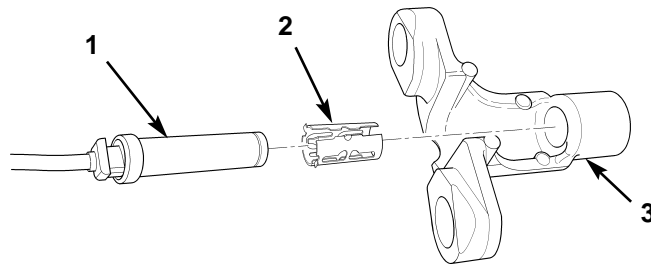

Figure 5. Wheel Sensor, Clamp Sleeve, and Mounting Bracket.
5. While holding end of wheel sensor (figure 5, item 1), pull and remove wheel sensor (figure 5, item 1) from clamp sleeve (figure 5, item 2).
6. Remove clamp sleeve (figure 5, item 2) from mounting bracket (figure 5, item 3).
1. Install clamp sleeve (figure 5, item 2) and wheel sensor (figure 5, item 1) on mounting bracket (figure 5, item 3). Slide wheel sensor (figure 5, item 1) approximately halfway in clamp sleeve (figure 5, item 2).